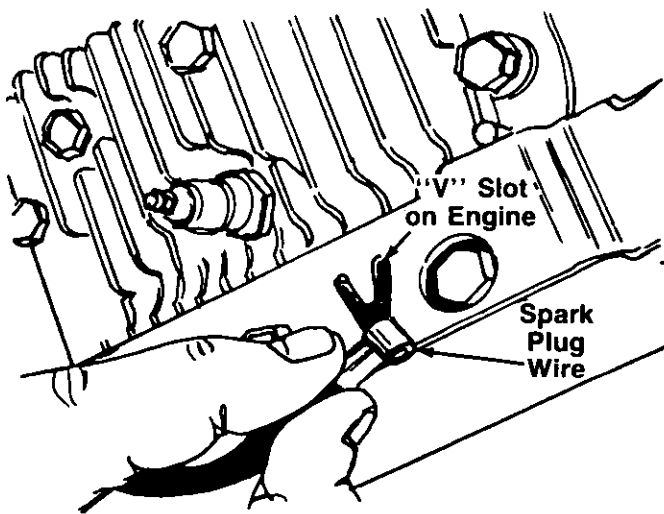

FIGURE 17.
20. To check the adjustment, disconnect the spark plug wire from spark plug to prevent accidental starting. Secure end of spark plug wire in the "V" slot on the engine. See figure 17. With the clutch lever released (neutral position), pull starter cord several times. **The tines should not turn.** If they do, adjust the hex nuts at the cable support bracket. Check again for correct adjustment.